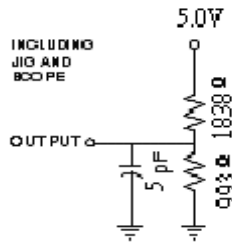

FIGURE 1B
5. Transition is measured ±500mV from steady state with C_L = 5pF as shown in Figure 1B. The parameter is guaranteed but not 100% tested.
10. Transition is measured $\pm 500\text{mV}$ from steady state with $C_L = 5\text{pF}$ as shown in Figure 1B. The parameter is guaranteed but not 100% tested.